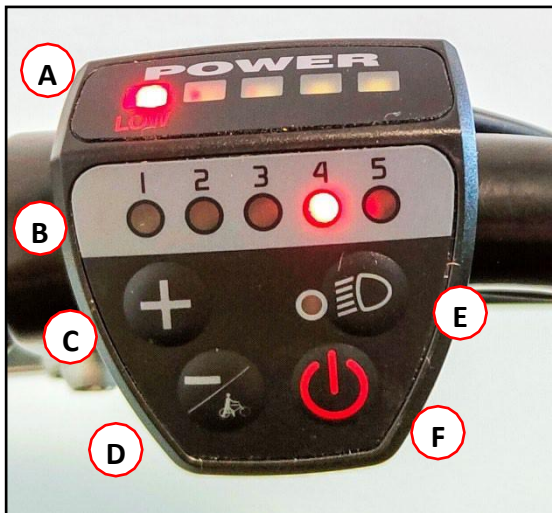

Figure 6 – Assistance device with the main functions
The assistance system is controlled via the controller, present on the handlebar, near the left grip. In particular, the assistance is activated or deactivated using the ON/OFF button (Ref. F in Figure 6). Once the system is activated, the management lights come on and it is possible to see the vehicle's activity status.
- 3- Hold the “ – ” button (ref. D in figure 6);
In particular, there are 5 LED lights (Ref. A in Figure 6) which light up based on the state of charge.
- 1- Turn off the assistance system of the pedal-assisted bicycle using the appropriate ON/OFF button (Ref. F in Figure 6).
To ensure visibility both during the day and at night, two lights are installed, one front and one rear. These devices are activated by pushing the button on the control device of the assistance system during the use of the pedal-assisted bicycle (Ref. E in Figure 6). The small light next to the on/off button stays on together with the headlights.